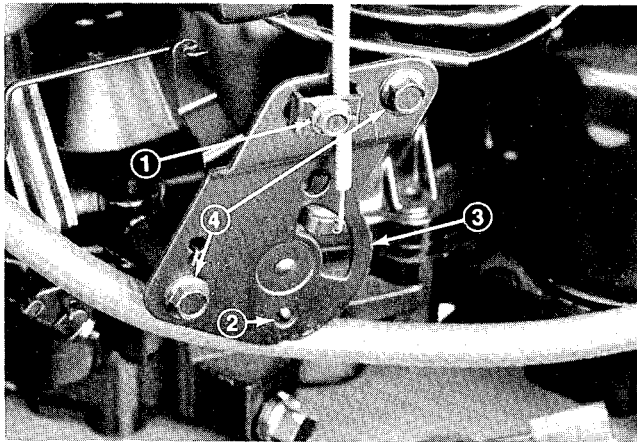

Figure 20
ADJUSTING THROTTLE—CHOKE CONTROL (Fig. 20)
2. Loosen the throttle cable clamp screw (Fig. 20) and move the control cable casing and wire until the hole in speed control is aligned with hole in control plate. Tighten cable clamp.